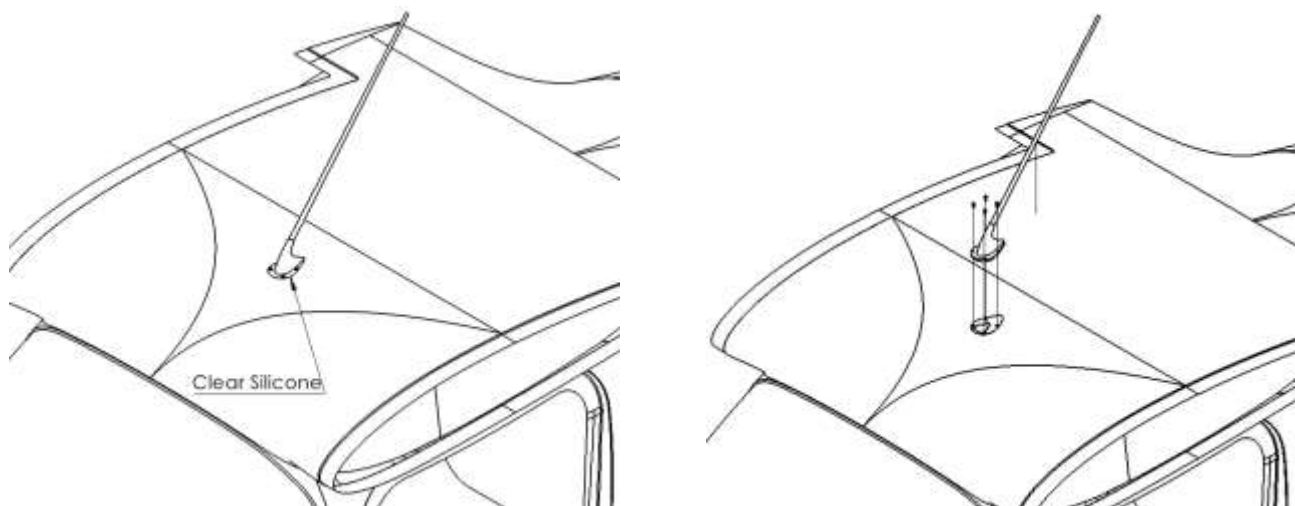

Figure 65: VHF antenna installation.
2. Apply clear silicone (refer to Figure 65) around the interface between the fuselage and antenna base. Allow to dry.